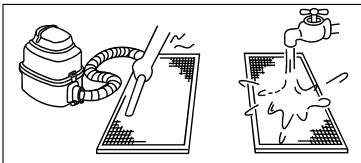

FIGURE 6: Clean The Air Filter
- 1.Tear down the two bolts signed A and B, take down the cover for air filter, see in Figure 6.